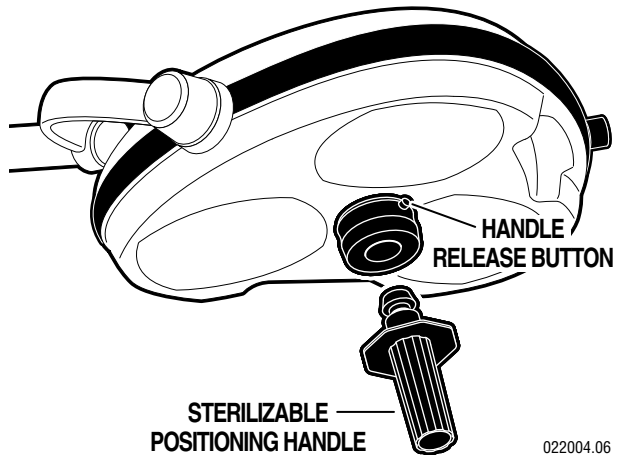

Figure 2-3. Sterile Positioning Handle Installation
c. When the surgeon is ready to use the light, install the sterilized center positioning handle using the following procedure. See figure 2-3. Be sure handle is properly secured before using the lighthead. Possible injury to patient or staff could result if a handle is not installed properly.